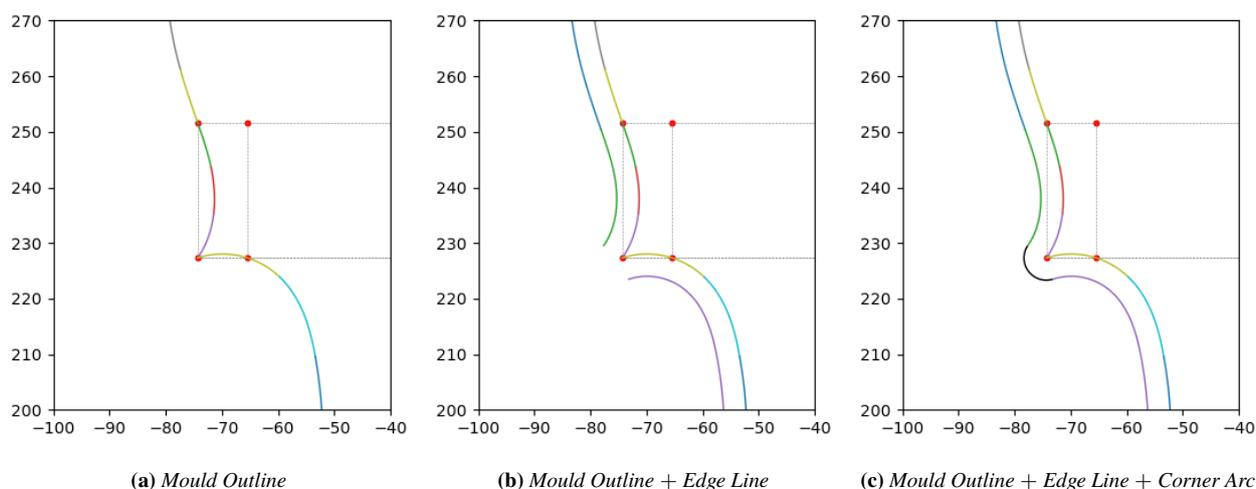

Figure 15: Mould Outline, Edge Line, Corner Arc
Displays/saves the mould outline. This is the most fundamental item and the primary purpose of the program, making it the most important line. It is selected by default when the program starts. - Figure 15 -
[Edge Line] is the edge line of the top/back plate, located outside the mould outline. This curve is generated by offsetting the mould outline outward by the value set in [1.(EA) Width of Edge]. [Corner Arc] draws an arc at each corner tip using the specified value as the radius. This arc can be used as a reference when designing the corners. - Figure 15 -